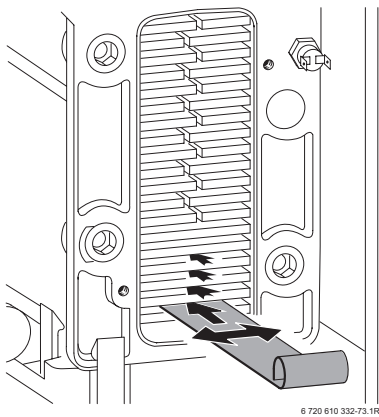

Fig. 54
- Loosen any deposits in the heat exchanger from top to bottom using the cleaning blade. Refer to fig. 54.